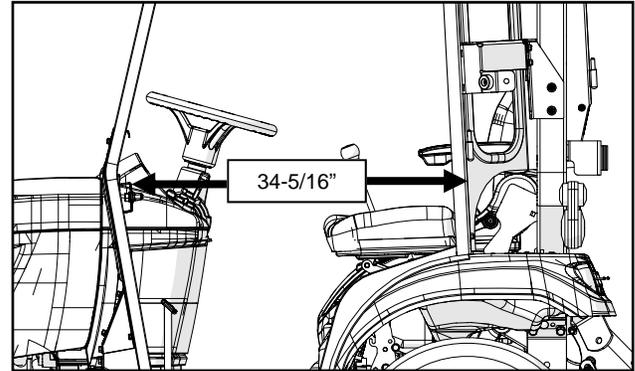

Fig. 10.1 (Measure A-Pillars to Rear Legs)
- 10.1** Measure the distance from the striker bracket to the back face of the rear legs as shown in figure 10.1. Adjust the A-pillars, contours, rear legs, and ROPS brackets to get as close to 34-5/16" as possible. Tighten the hardware securing the A-pillars and the bottom of the contours to the A-pillars.